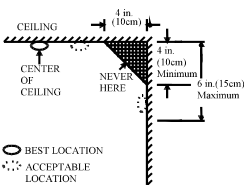

Figure 4: RECOMMENDED BEST AND ACCEPTABLE LOCATIONS TO MOUNT
- Install smoke detectors as close to the center of the ceiling as possible. If this is not practical, put the detector on the ceiling, no closer than 4 inches (10 cm) from any wall or corner, as shown in Figure 4.
- If ceiling mounting is not possible and wall mounting is permitted by your local and state codes, put wall-mounted detectors between 4 and 6 inches (10 ~ 15 cm) from the ceiling, also see Figure 4.
- Dead air spaces are often at the top of a peaked roof, or in the corners between ceilings and walls. Dead air may prevent smoke from reaching a detector. See Figures 4 and 5 for recommended mounting locations.